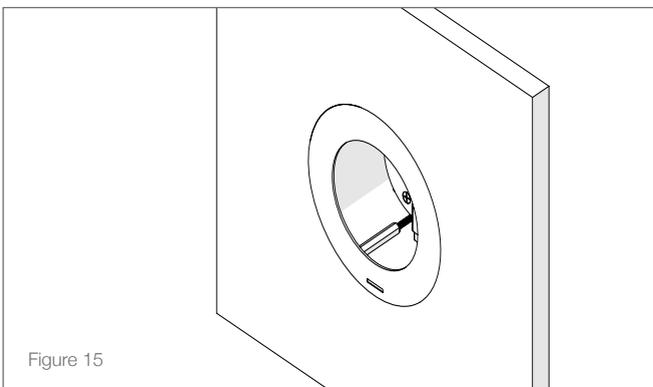

Figure 15
3. Insert the Fascia into the opening and verify that it is flush to the wall surface (see Figure 15).